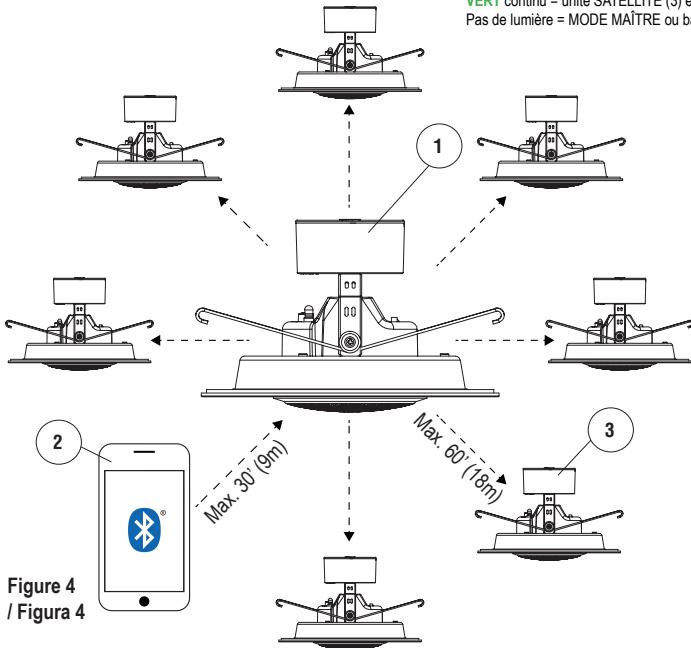

Figure 4 / Figura 4
4. While the MASTER Unit (1) is still playing music, press the PAIR Button (12) on the SATELLITE Unit (3) until it makes an audible BEEP sound and starts quickly flashing GREEN. Then separately press and hold the PAIR Button on the MASTER Unit.
5. Once speakers pair, the SATELLITE Unit (3) will make an audible BEEP sound and should sync up with the MASTER Unit (1) within 20 seconds, resulting in music coming from both units simultaneously. The PAIR Button (12) on both units will illuminate to a solid GREEN light and will remain solid GREEN as long as the units are paired.
6. If the pairing does not complete within 20 seconds, turn OFF the SATELLITE Unit (3) by pressing the ON/OFF Button (11) for 3 seconds. After the Speaker (4) makes two BEEP sounds, re-start process from Step II.3.
7. Repeat Steps II.1 - II.5 for up to seven SATELLITE Units (3) (Figure 4).